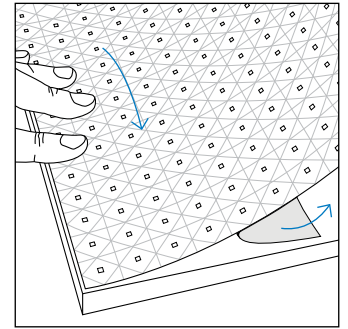

Figure 16
- Peel the backing film away while applying the sheet to the mounting surface with firm consistent pressure (figure 16).